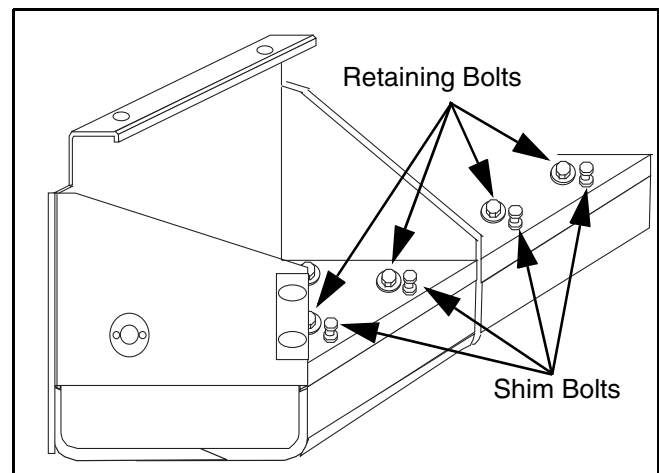

Figure 21 Screed Bottom Flatness
- 2) Check the screed bottom along the length of the straight edge for flatness. If the screed bottom is not flat, loosen the retaining bolt adjacent to the shim bolt and tighten the shim bolt as needed to flatten the trailing edge. Retighten the retaining bolt. (Figure 21)